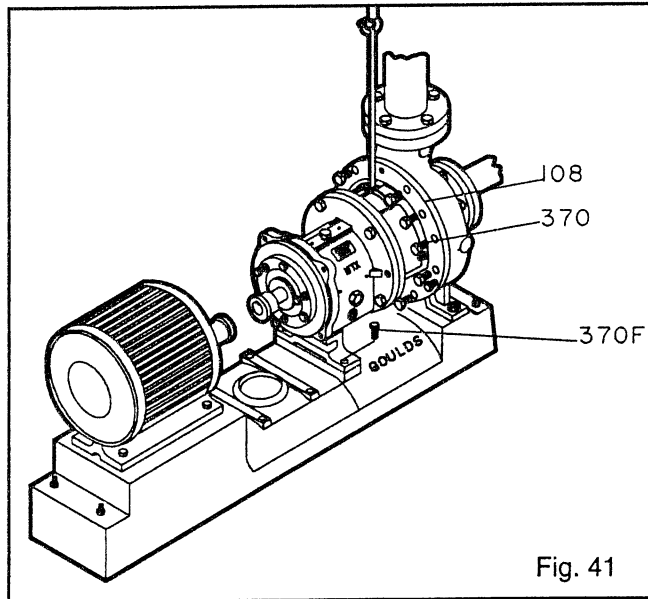

Fig. 41
- All, except with C-Face adapter: Place sling from hoist through frame adapter (108) or frame (228A) for STX (Fig. 41).